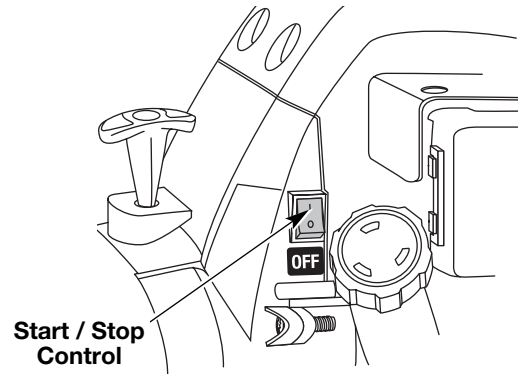

Fig. 6
3. Make sure the On/Off Stop Control is in the ON (I) position (Fig. 6).